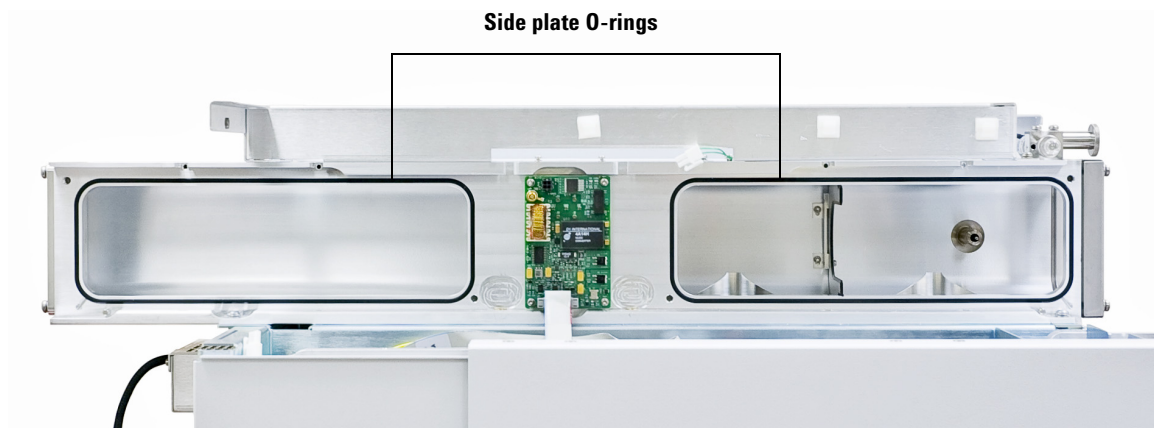

Figure 11 Side plate O-ring
- 3 Use a clean, lint-free cloth or glove to spread a *thin* coat of high-vacuum grease only on the exposed surface of the O-ring (Figure 11).